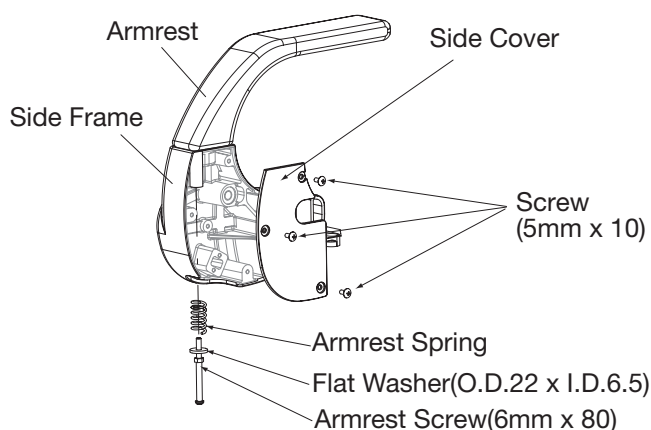

Figure 4
- 4) Remove the side cover and attach each armrest to side frame as shown in Figure 4 (it may be necessary to lightly lubricate armrest shaft with silicone lube).